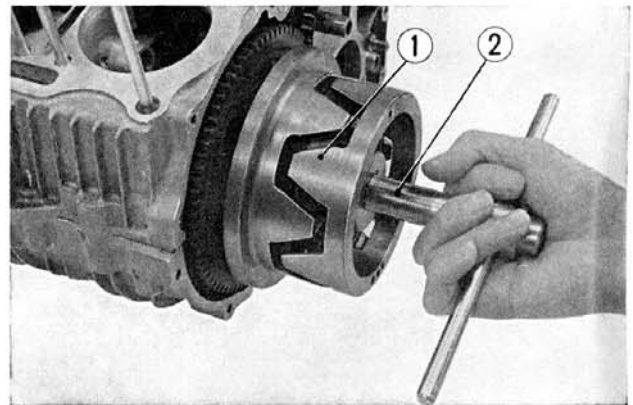

Fig. 8-5 ① A.C generator rotor ② Rotor puller
1. Remove the dynamo cover and pull out the generator rotor using the rotor puller (Tool No. 07933-3000000) (Fig. 8-5)